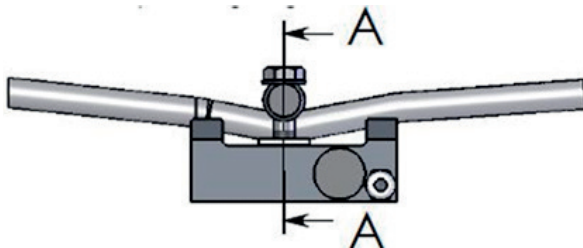

Fig. 5
2. Load the crane with a weight as close to the maximum load as possible, tighten the two bolts labeled as line A (fig.5) so the output signal is as close to  $1.6 \text{ mV} / \text{V}$  as possible (at a supply voltage of  $10 \text{ V}$ , it will be  $16 \text{ mV}$ . It must not exceed this). If bolts are fully tightened and  $16 \text{ mV}$  is not obtained, this is acceptable.